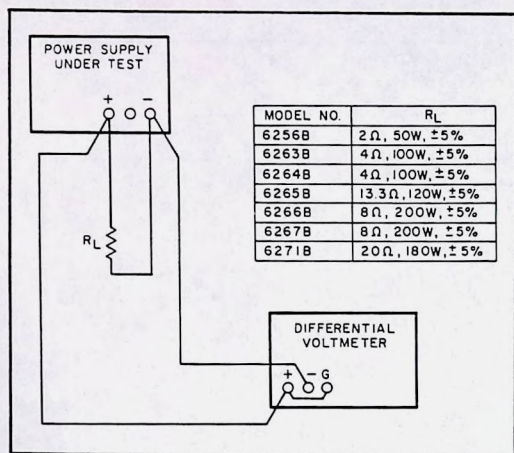

Figure 5-3. CV Load Regulation, Test Setup
- Connect load resistor (R_L) indicated in Figure 5-3 across the output terminals of supply.
- Connect test setup shown in Figure 5-3.